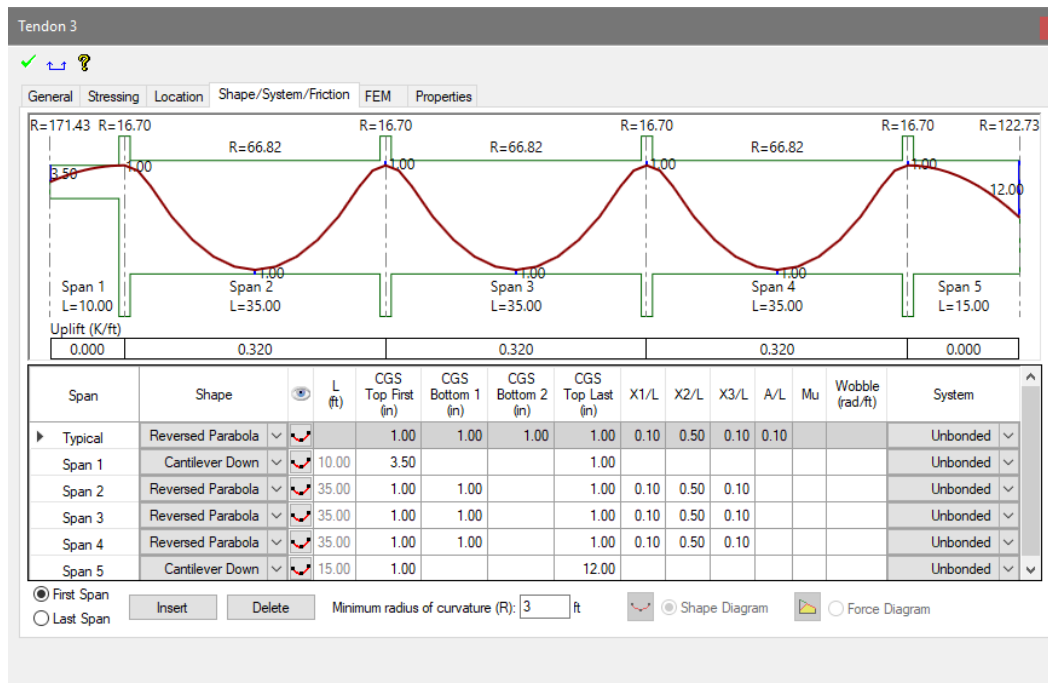

Figure 9-55
- Click on the *Shape/System/Friction* tab. Notice that the tendon goes almost to the top of slab at the transition from the main slab to the balcony as shown in **FIGURE 9-55**.